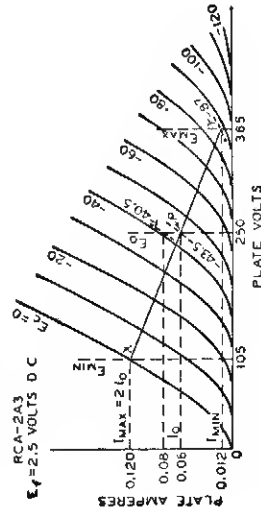

Fig. 20
**Example:** Determine the load resistance, power output, and distortion of a triode having an amplification factor of 4.2, a plate-dissipation rating of 15 watts, and plate characteristics curves as shown in Fig. 20. The tube is to be operated at 250 volts on the plate.